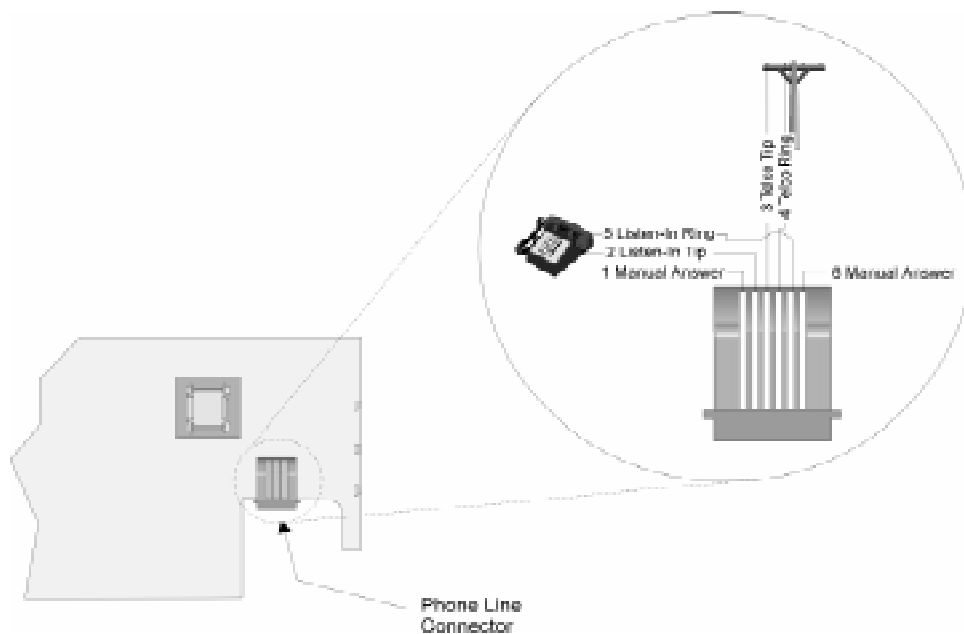

Figure 4-24 Phone Connector Pin-Out and Listen-in Wiring Diagram
3. Pick up the telephone the listen-in call is on. See Figure 4-24 for a diagram of how the listen-in phone should be connected (in parallel) with the phone line of the line card.